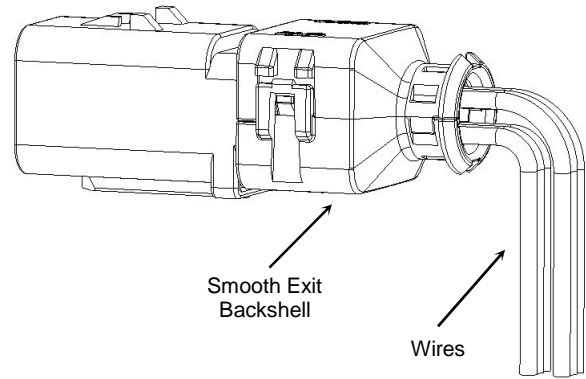

Figure 15
1. Complete steps 1-7 of the smooth exit applications backshell assembly process (section 3.A) and bend the exit wires in the desired direction, as shown in Figure 15.